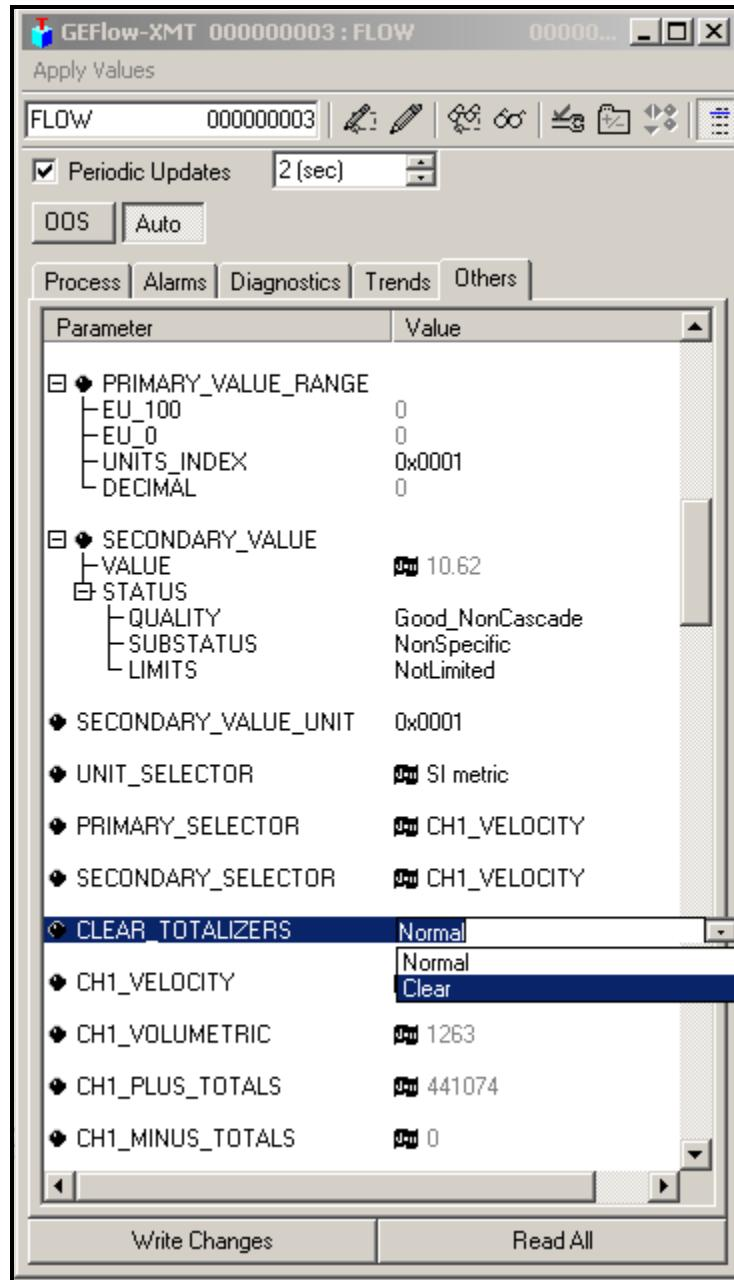

Figure 50: Clear Totalizers Drop Down List
3. Select Clear from the drop down list box (see Figure 50).